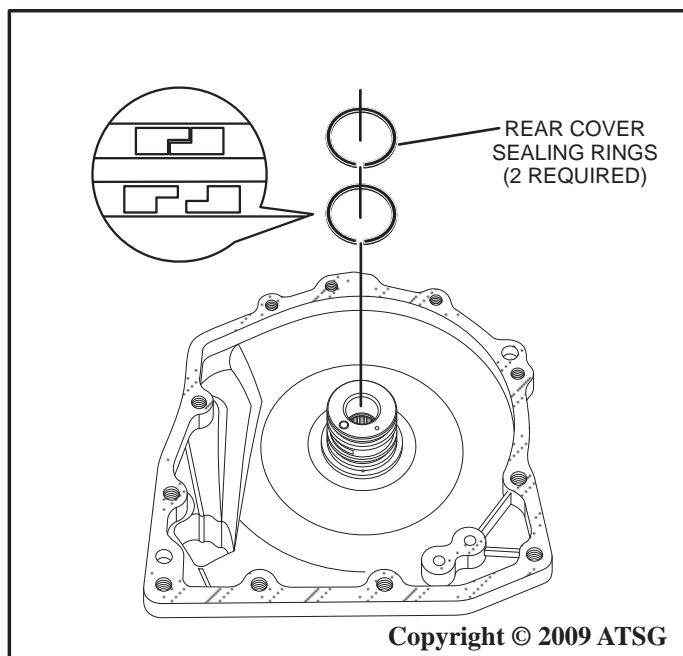

Figure 173
54. Install two new rings onto the back cover and coat the rings with a small amount of Trans-Jel® as shown in Figure 173.
55. Make certain the rings overlap correctly as shown in Figure 173.